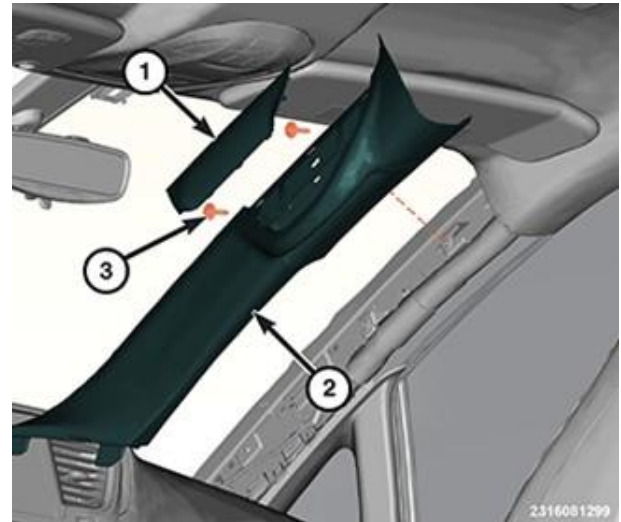

Figure 2 – A-Pillar Trim Panel
- a) **If equipped** with a grab handle, use a trim stick or equivalent, remove the cover. (Figure 2).
- b) **If equipped** with a grab handle, remove the two bolts. (Figure 2).
- c) By hand, pull at the top of the A-pillar trim panel working towards the bottom releasing the retaining clips (Figure 2).
- e) Lift the A-pillar trim panel upward and remove it from the instrument panel (Figure 2).